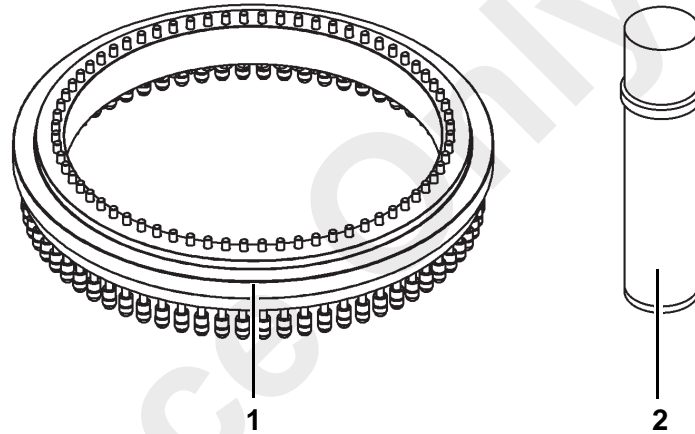

Fig. 33 Lubricate slewing ring.
2	Thoroughly clean gearing (1) in Fig. 33.
4	Spray gearing from an approximately 30 cm distance with MANITOWOC gear spray (2) in Fig. 33.